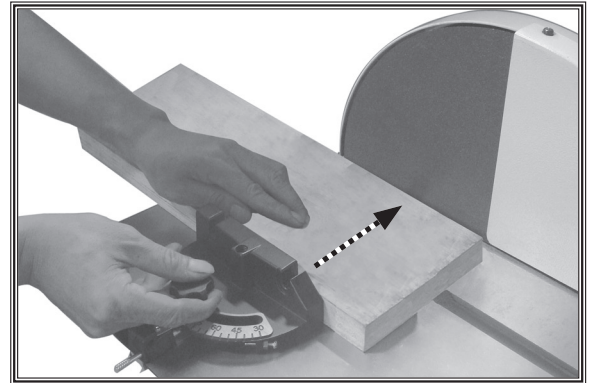

Figure 13. Example of Y-axis sanding.
5. With light, but firm pressure, push the workpiece into the down-spin side of the rotating disc. See **Figures 13–16** for examples of disc sanding.